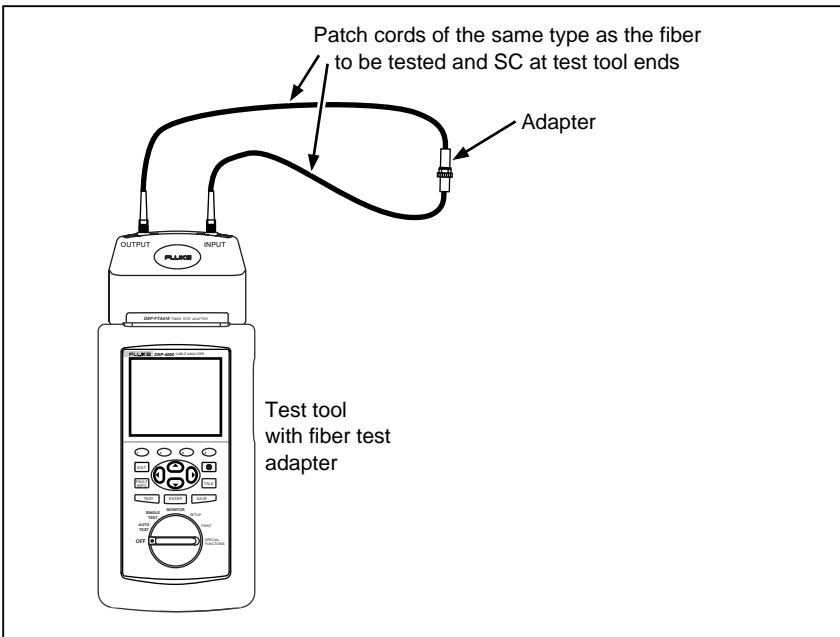

Figure 6. Setting a Reference for Loopback Mode
3. Make the connections shown in Figure 6.